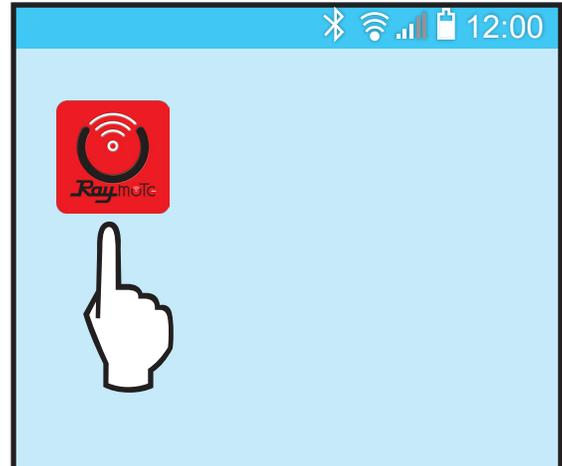

Figure 6. Find your Raymote Mobile App Icon
Once the user registration is complete, a user can begin to add new devices via the Raymote mobile app. See Figure 6.
2. Find the Raymote mobile app icon on your device. See Figure 6.